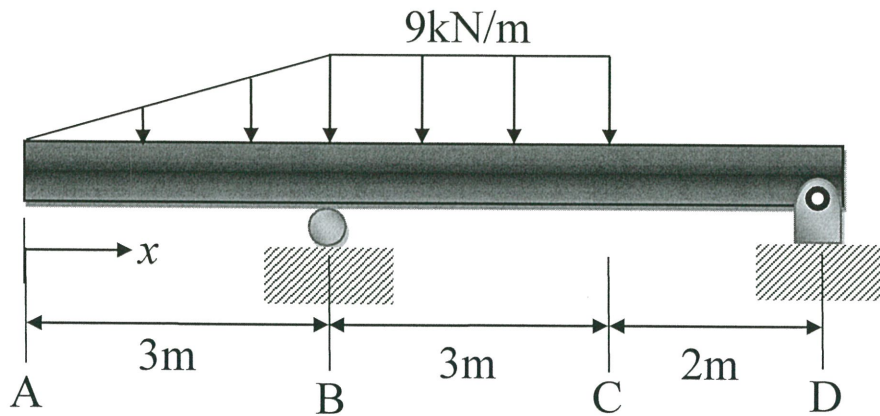

Figure Q5
- Q5** An overhanging beam is roller-supported at point B and pin-supported at point D is loaded as shown in **Figure Q5**. Using an Integration Method and assume that EI is constant, determine: